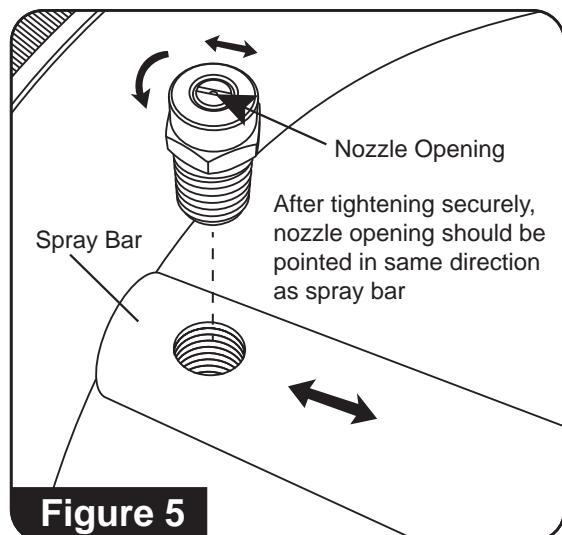

Figure 5
7. Reinstall the nozzles on the spray bar. Tighten securely. Align the nozzle opening as shown in **Figure 5**.